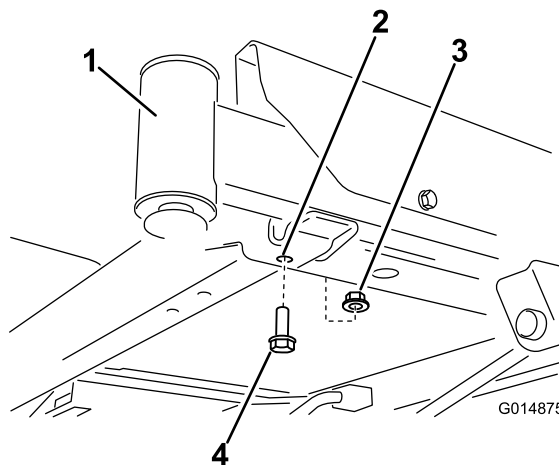
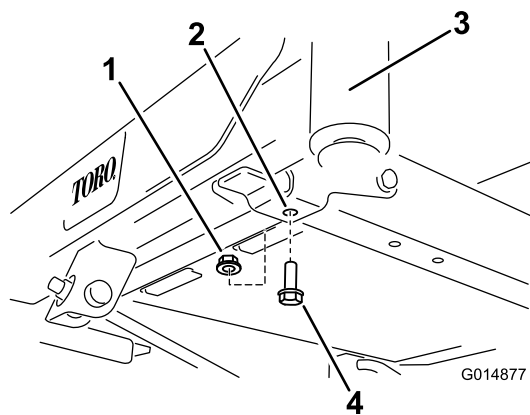

Figure 1
Figure 2
2. Locate the forward bolts on the underside of the frame (Figure 1 and Figure 2). Remove the two bolts (3/8 x 1 inch) and two locknuts (3/8 inch). Retain the lock nuts.